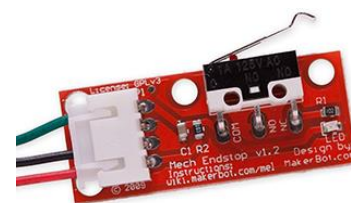

Fig 3.8 Endstops
6. **Endstops:** Endstops are sensors placed at the ends of each axis to detect when the print head or bed has reached its limit of motion. They help prevent the printer from attempting to move beyond its physical boundaries, which could cause damage to the printer or the printed object. Endstops (as shown in Fig. 3.8) can be mechanical switches, optical sensors, or hall effect sensors.